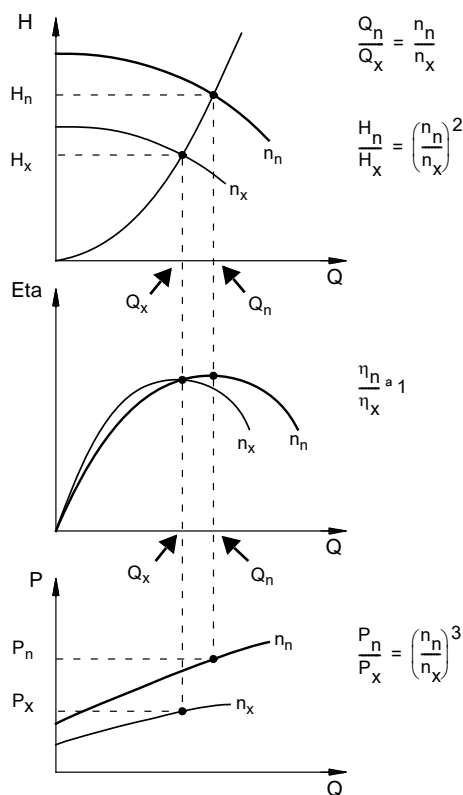

Fig. 23 Affinity equations
In situations where it is not possible to select a duty point close to the 100 % curve, the affinity equations can be used. The head (H), flow (Q) and input power (P) are all the appropriate variables for determining the motor speed (n). See fig. 23.